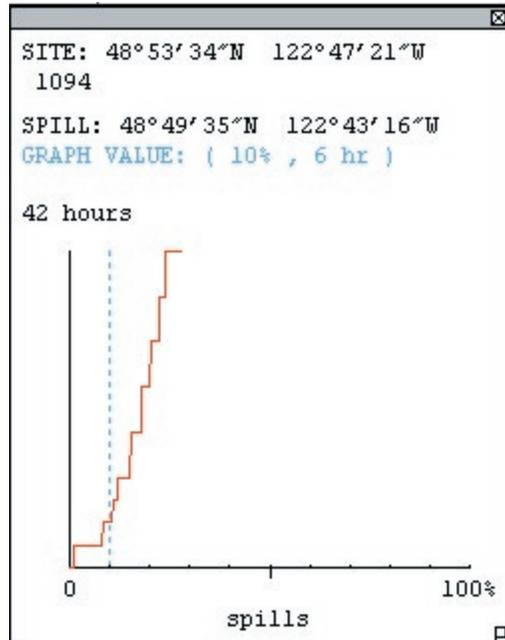

Figure 35. Response Time Analysis graph showing 10% of spills impacting receptor site in 6 hours.
- 5 Click in the graph portion of the graph window to see the information in light blue. See figure 35.